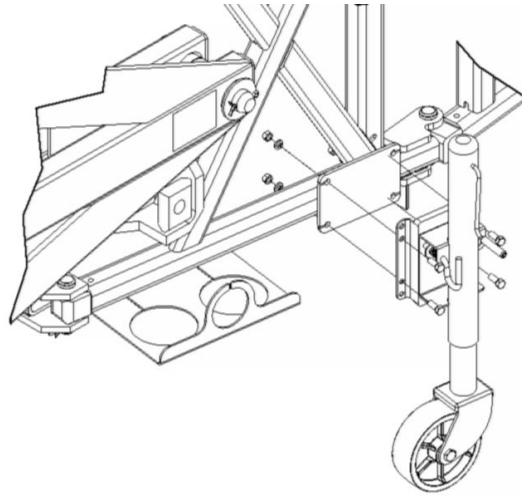

Figure 31
- B. Remove the Jacks from the storage location and attach them to the system as shown in Figure 31.